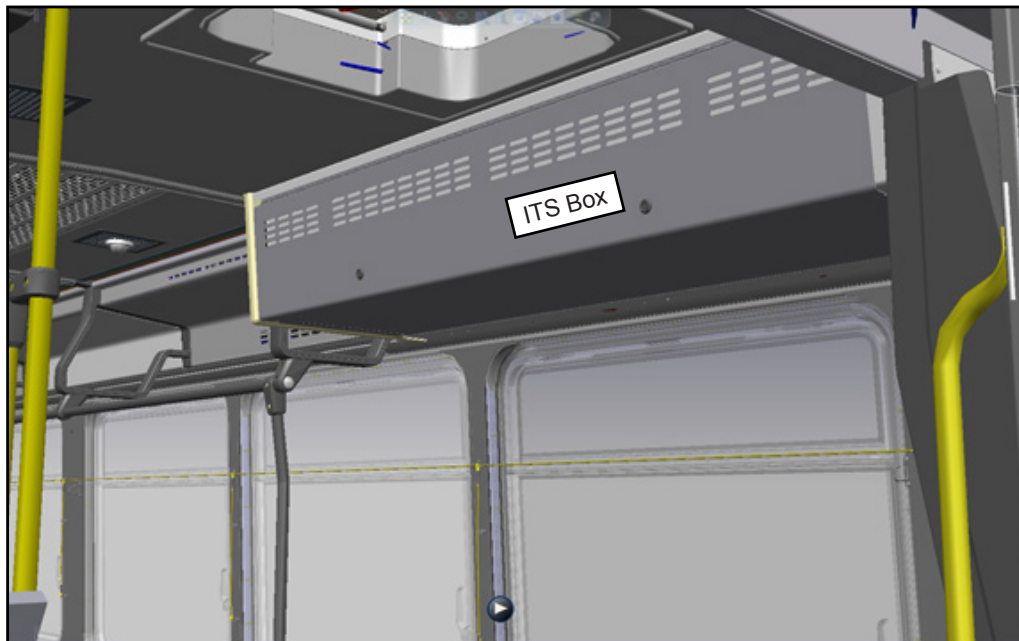

Figure 2 - Typical Location of ITS Box
- 1.4. Locate and open the ITS box (if present) on the street side baselight (see Figure 2).